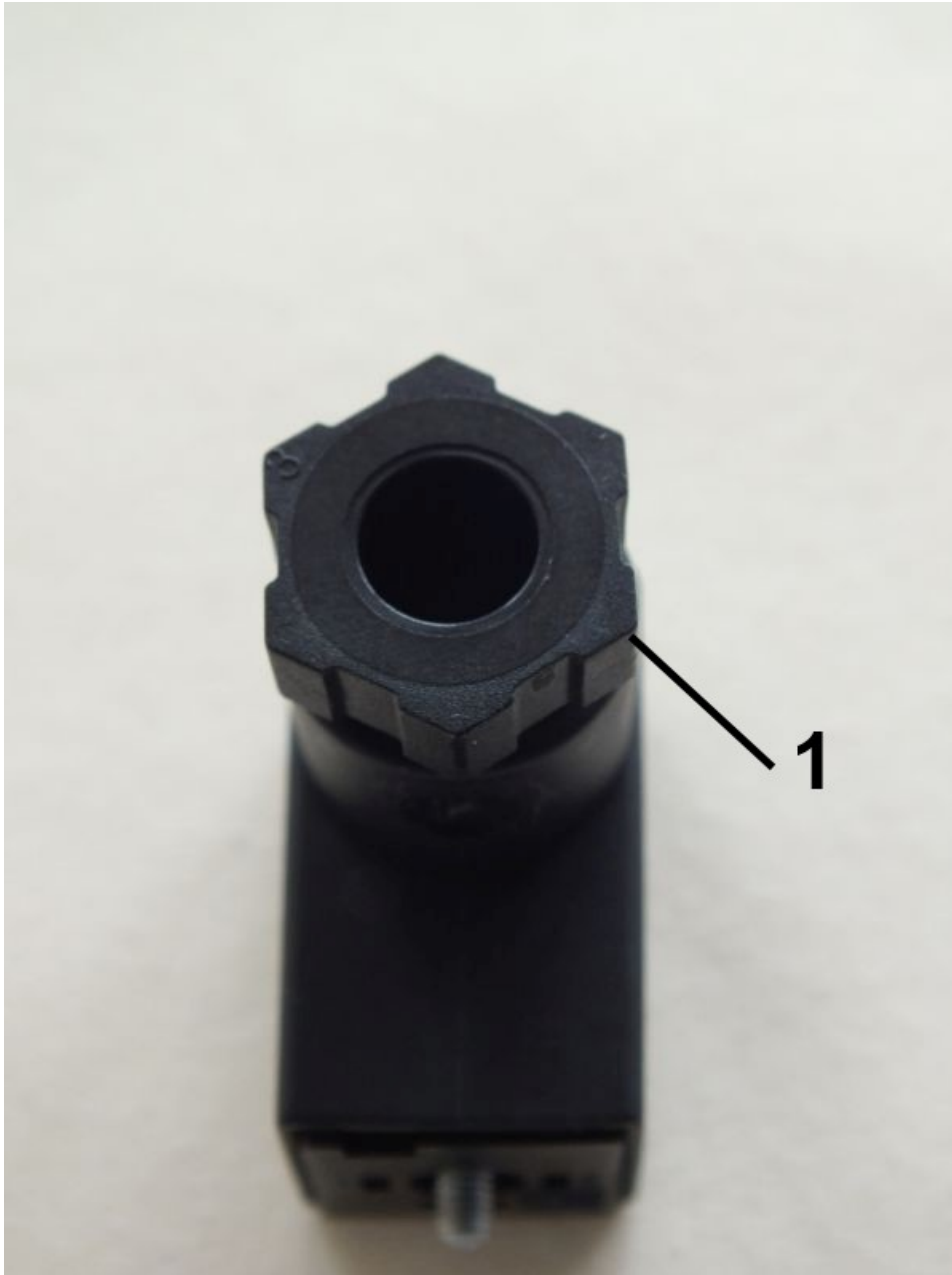

Fig. 23: Loosen the screw connection
- 4.** ➤ Loosen the screw connection *Fig. 23/1*) by turning it to the left
- 8.** ➤ Retighten the screw connection *Fig. 23/1*) by turning it to the right until tight